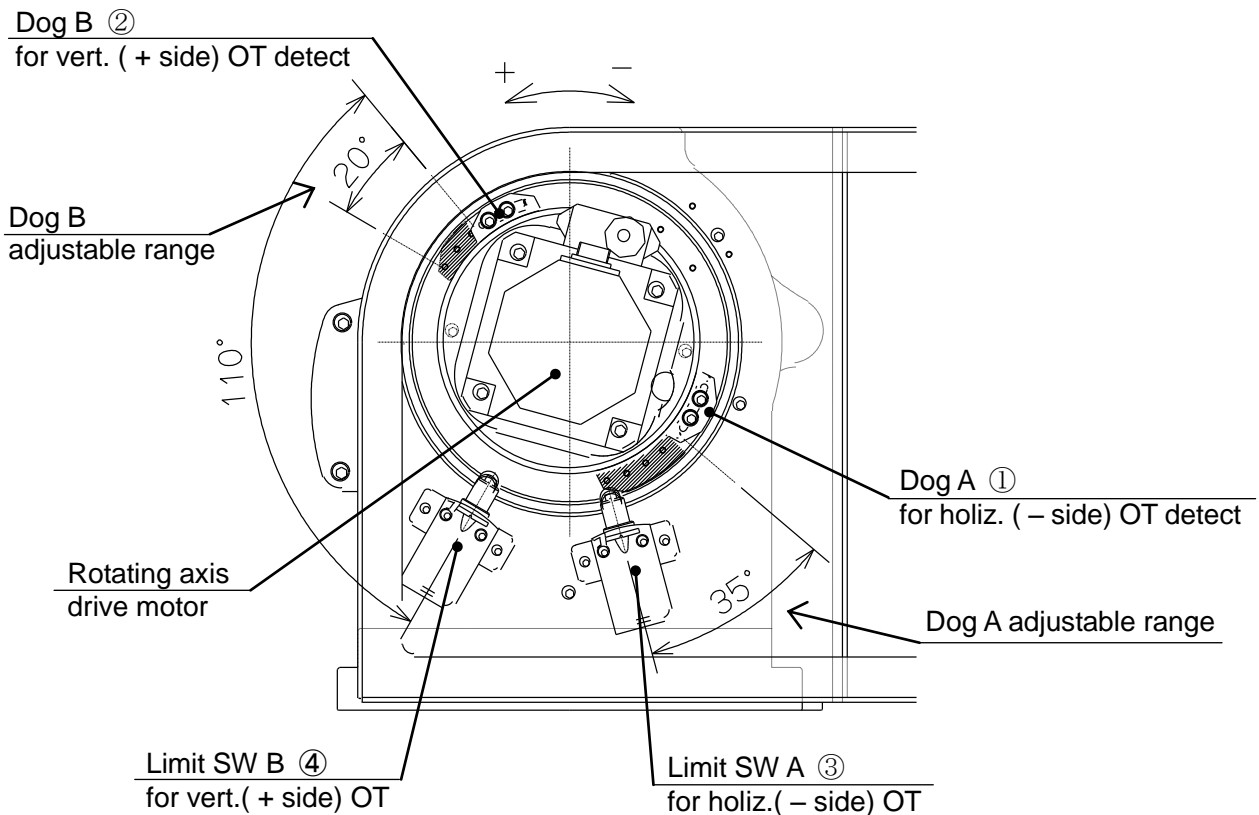

Fig.13
14. Tilting Axis Over Travel Stop Device (See Fig.13)